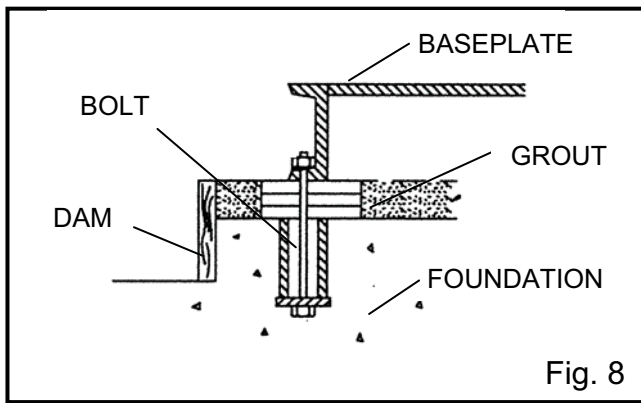

Fig. 8
5. Build a dam around foundation and thoroughly wet the foundation (Fig. 8)